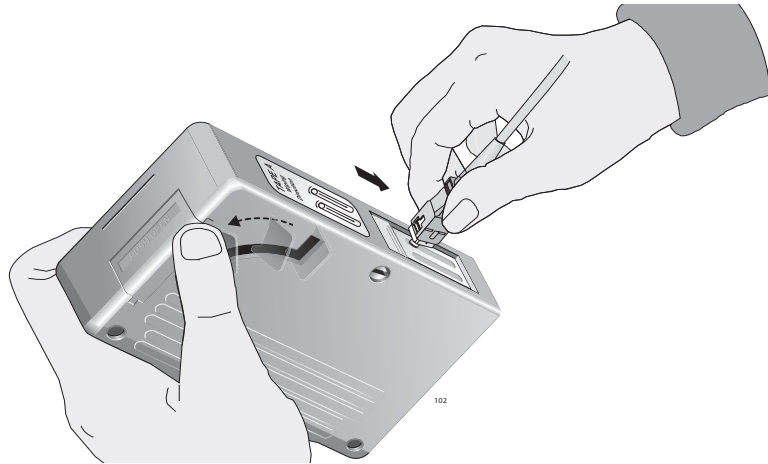

Figure 21. Rubbing the Ferrule Tip on the Cleaning Surface
1. With one hand, hold the cartridge cleaner and push the lever on the cleaning cartridge in the direction of the arrow to expose the cleaning surface, as shown in Figure 21 on page 59.
2. Place the ferrule tip on the exposed cleaning surface and rub the ferrule in a downward direction, as shown in Figure 21.